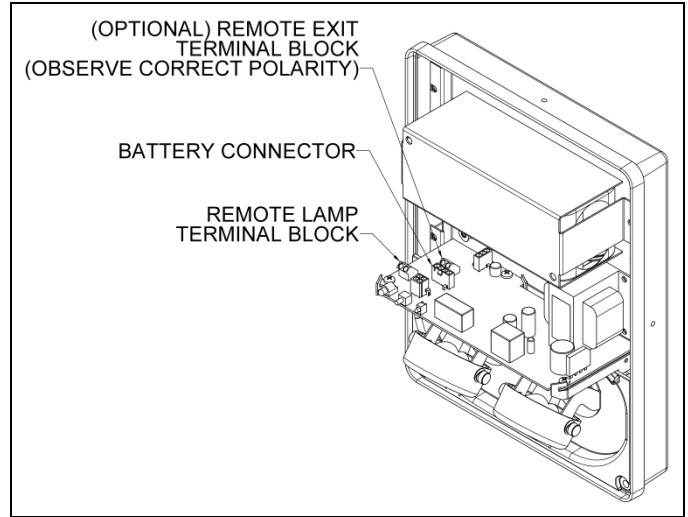

Figure 1
Installation (Figs. 1, 2, 3)
- A single momentary actuation of the laser-activated photodetector (see fig.1) or the manual test pushbutton will initiate a one-minute test. The normally off emergency lamps will come on and the status LED will display single green flashes, signaling a test is in progress.